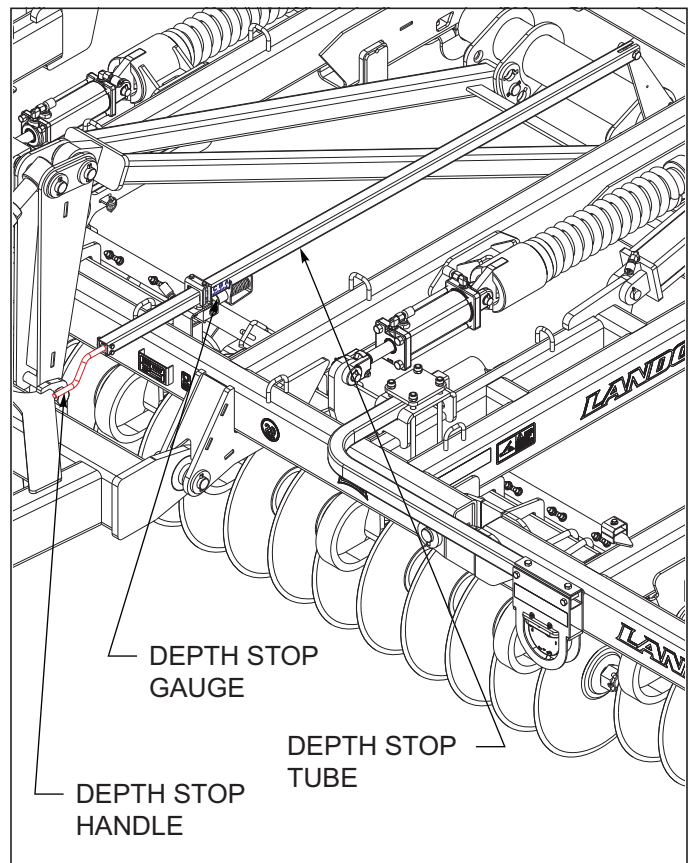

Figure 4-10: Depth Stop Adjustment
1. Adjust the depth stop by turning the handle out (counter-clockwise) to increase operating depth See Figure 4-10. Turn the handle in (clockwise) to decrease operating depth. One turn will equal approximately 1/8" adjustment in depth. Arrows on the front will also show this.